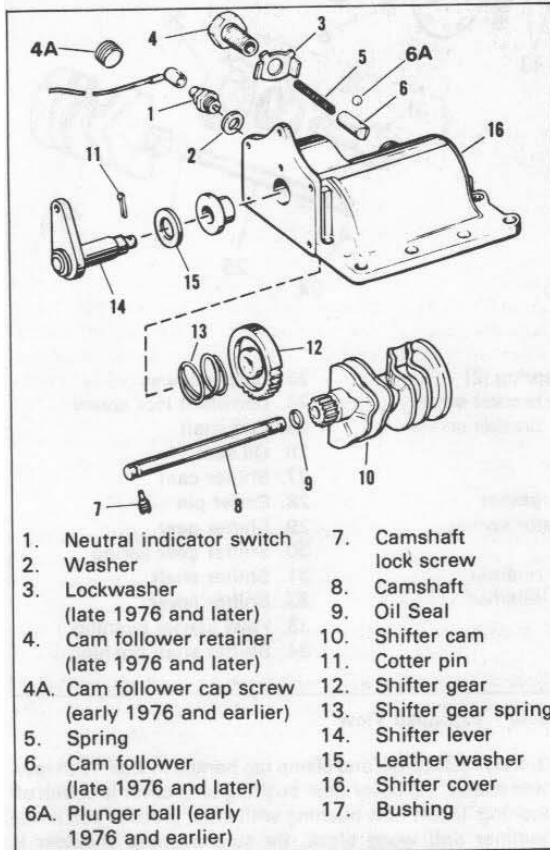
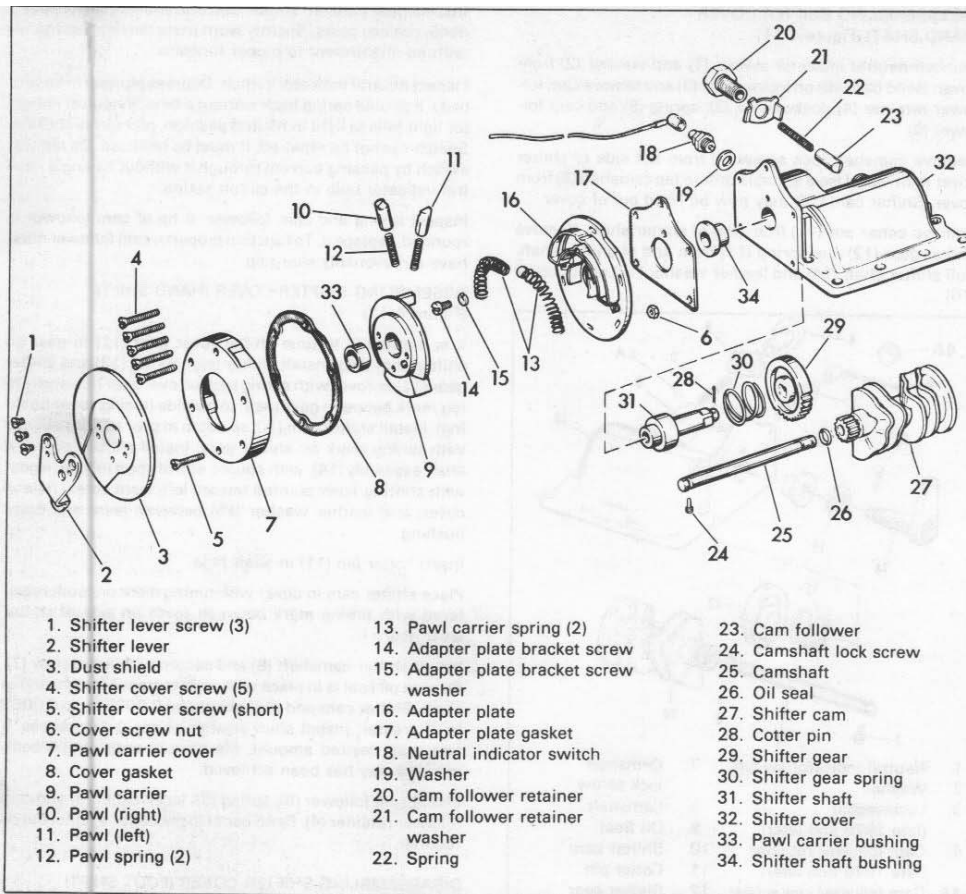
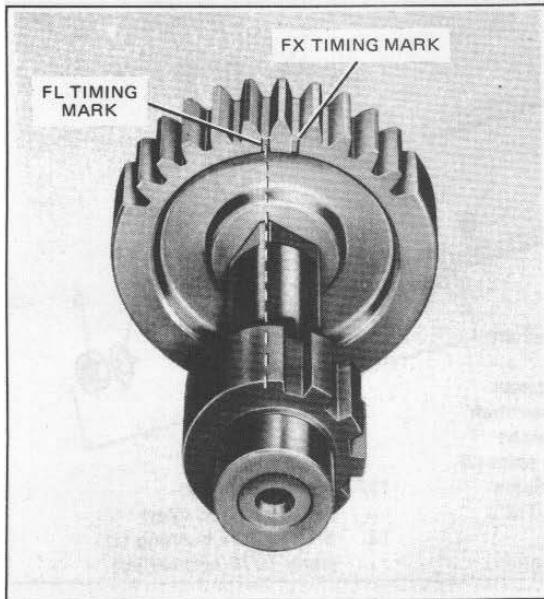

Figure 4-11. Hand Shifter Cover - Exploded View
Figure 4-12. Foot Shifter Cover - Exploded View
Figure 4-13. FLH Timing Shifter Gear
Disassemble shifter cover parts 1 through 12 as described in "Disassembling Shifter Cover (Foot Shift)," see Figure 4-11. Time shifter notches as illustrated in Figure 4-13. Loosen screw (14, Figure 4-11) and rotate adapter plate (16) until timing notch (Figure 4-13) in adapter plate, located at bottom of shifter gear hole, lines up with notch between two shifter gear teeth. Make alignment exact, then tighten adapter plate bracket screw to lock in position. This adjustment can be made with shifter in any gear (not neutral).
(HAND SHIFT)** (Figure 4-11)
(Figure 4-11)
(Figure 4-12)
ASSEMBLING SHIFTER COVER (FOOT SHIFT) (Figure 4-12)
Note position of the timing mark (Figure 4-13). This is the proper timing alignment.
Refer to Figure 4-12. Position shifter gear (29) and spring (30) in case, so side of gear with timing mark is toward case. Insert shifter shaft (31) so parts are timed as shown in Figure 4-13 and tap parts together. Insert cotter pin (28).